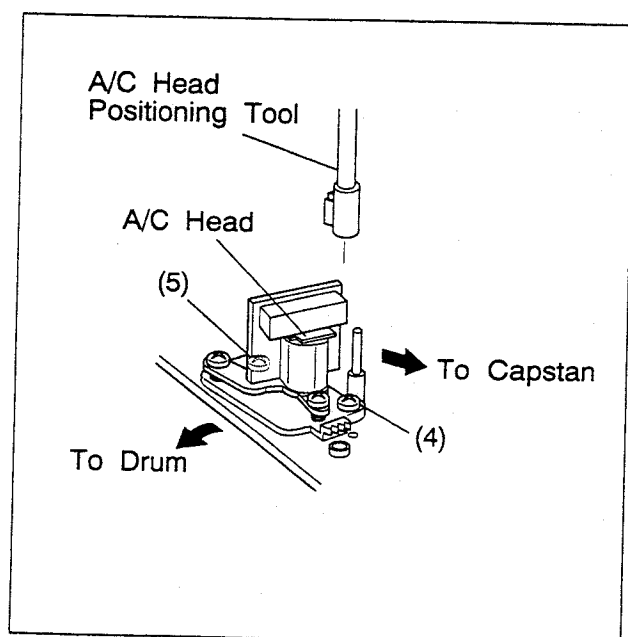

Fig. 2-7-6
- (1) Connect the oscilloscope to TP6(PB FM) on the PRE/REC board. Use TP11(D.FF) on the PRE/REC board as a trigger.
- (2) Playback the SP stairstep portion of the alignment tape [MHPE].
- (3) Set the neutral manual tracking position by pressing the **///** button on the remote controller.
- (4) If adjustment is required, slightly loosen screws (4) and (5). Set A/C head positioning tool on the A/C head adjusting boss as indicated in Fig.2-7-6.